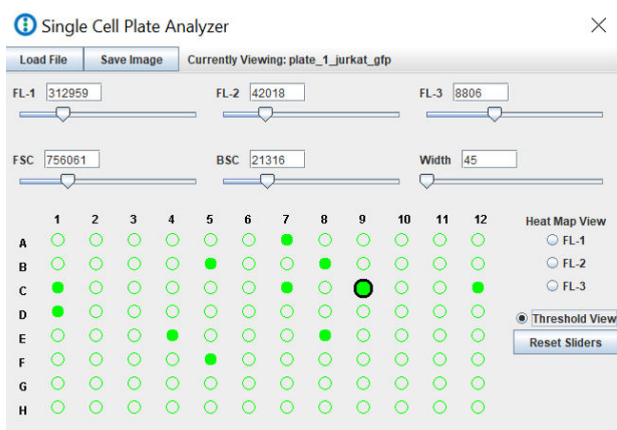

Figure 67. The Plate Analyzer Threshold View.
2. Adjust thresholds individually moving the sliders or by manually inputting a number (Fig. 67).
3. Reset values and select a well to see an event on the plots (Fig. 67).